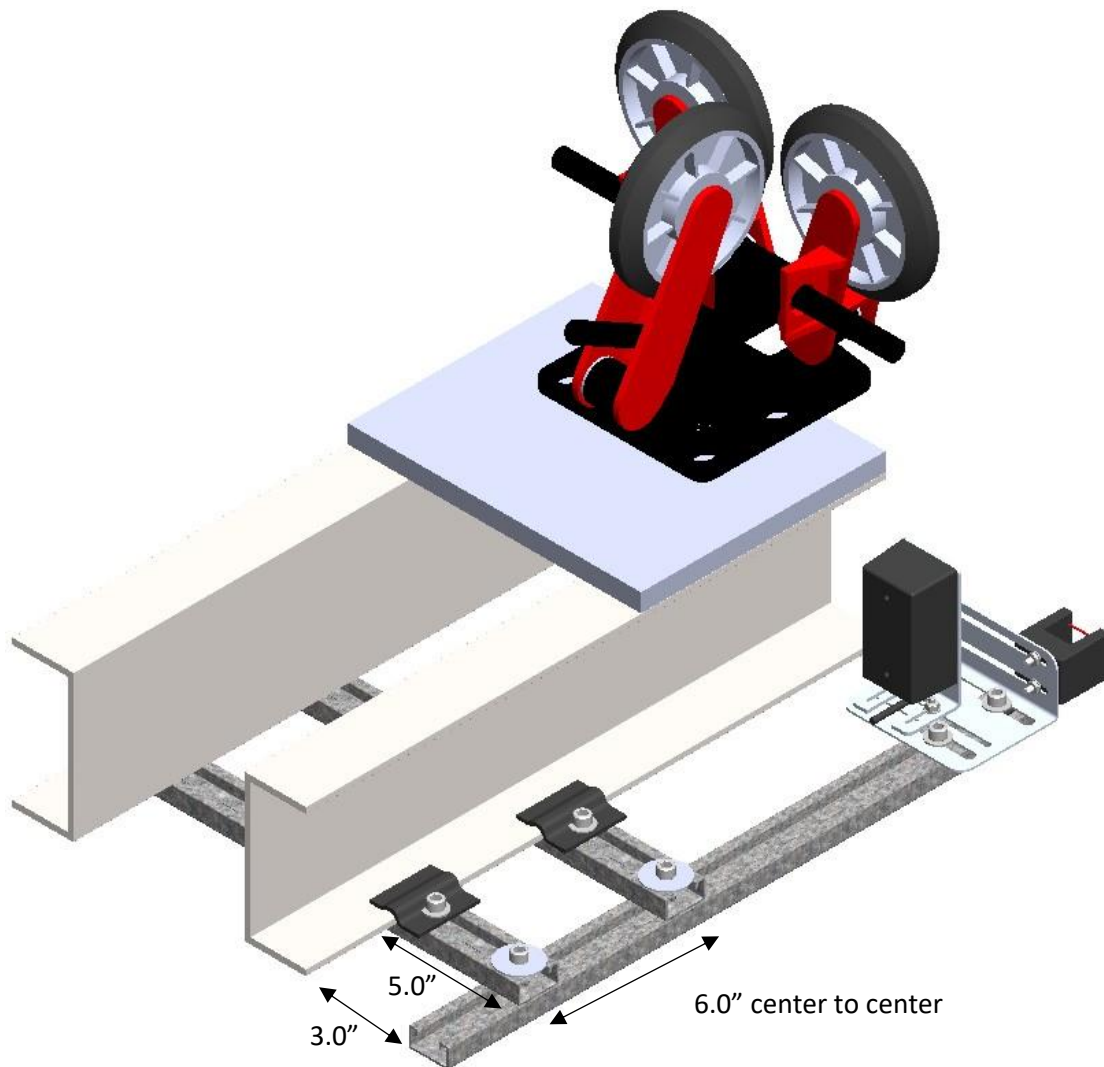

Figure 6: Unistrut installation
| Figure 6: Unistrut installation..... | 9 |
- Bolt the two, 18" lengths of Unistrut to the C-channels as shown in figure 6.
- Bolt the 24" length of Unistrut to the two 18" lengths as shown in figure 6. Note: the 24" length may be bolted to the top of the two 18" lengths if desired.